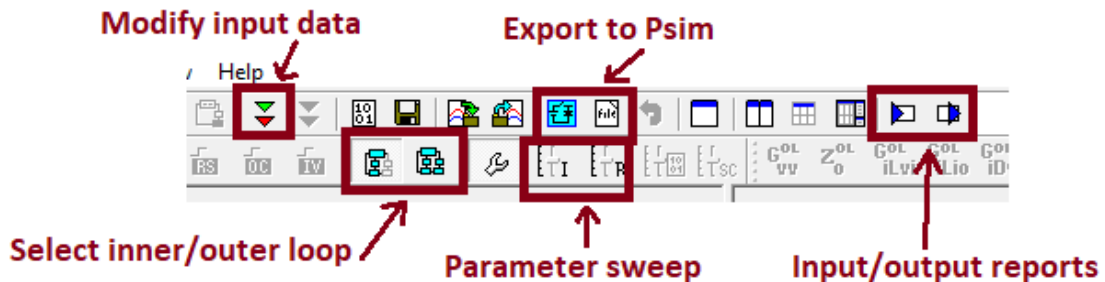
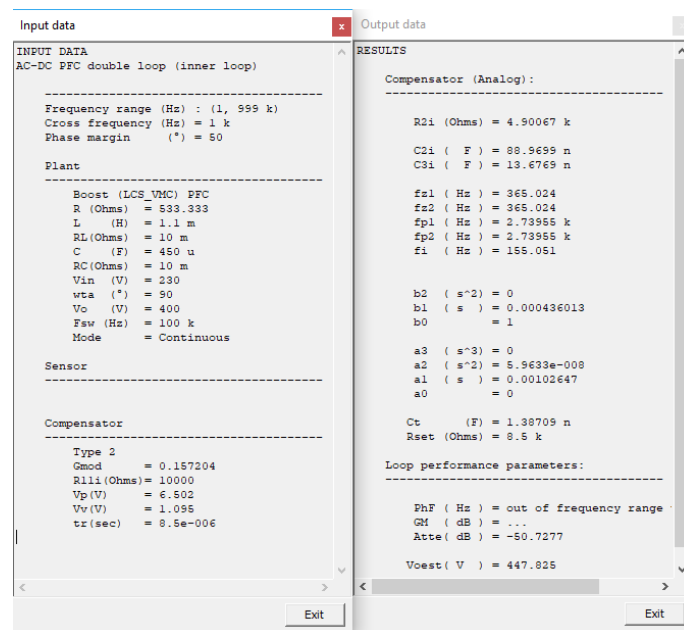
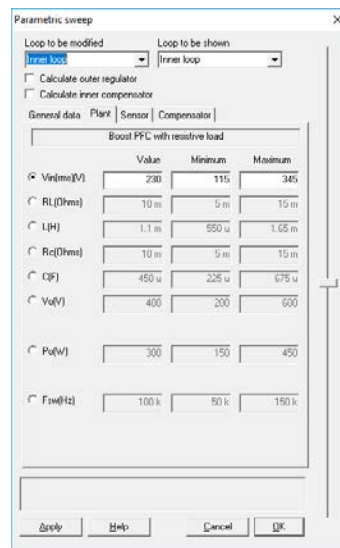

Figure 20: SmartCtrl main utilities
Figure 22: input/output data report
Figure 23: Parametric sweep of inner loop plant parameters
- View the input and output reports. See Figure 20 and Figure 22.
- Perform a parametric sweep. See Figure 20 and Figure 23.
- Modify input data for inner loop, outer loop and plant. See Figure 20.
- Visualize data from input or output loop. See Figure 20.